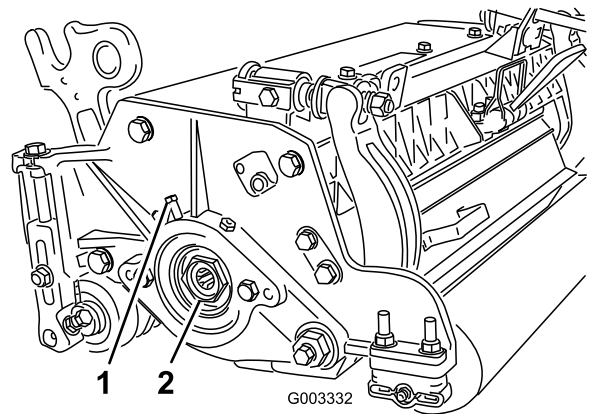

Figure 26
- A. Loosen external set screw securing bearing adjusting nut to bearing housing located on the left side of the cutting unit (Figure 26).